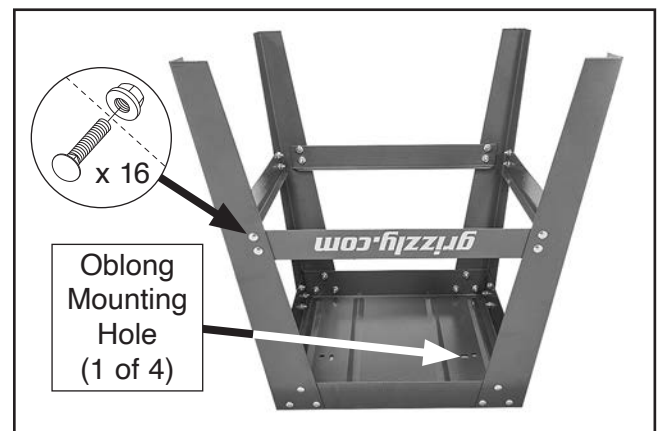

Figure 10. Legs and braces attached.
2. Loosely attach front/rear leg braces and side braces to the legs using (16) M8-1.25 x 16 carriage bolts and flange nuts (see **Figure 10**).